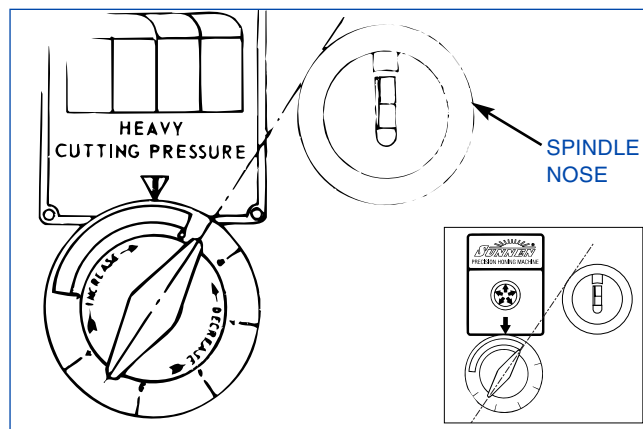
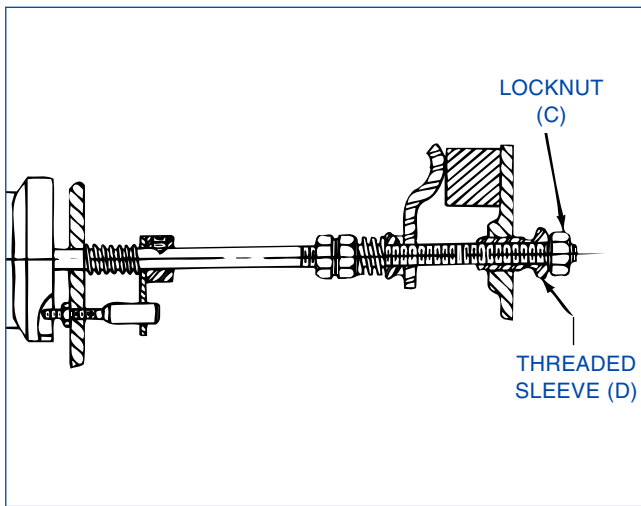

FIGURE 4-6, Heavy Cutting Pressure Control
FIGURE 4-9, Heavy Cutting Pressure Control
6. Rotate Heavy Cutting Pressure Control so handle is in line with upper surface of Spindle Nose (see Figure 4-6). Honing dial needle should move to between 4 and 5.
13. Loosen Locknut (C) on Heavy Cutting Pressure Control shaft (see Figure 4-9).
15. Turn Threaded Sleeve (D) clockwise (as viewed from rear of machine) until honing dial needle will not return to zero when Feed Dial is pushed all the way in and slowly released.
16. Set Heavy Cutting Pressure Control so that handle is in line with upper surface of spindle nose (refer to Figure 4-6).